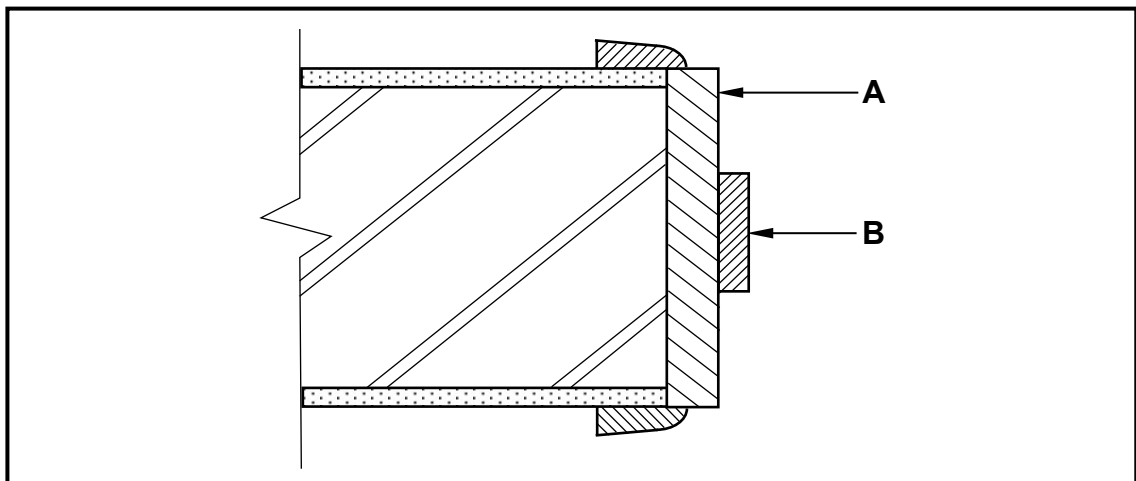

FIGURE 6.3
6.3 FIGURE 6.3 below shows a portion of the sectional view of a brick wall with a jamb lining.